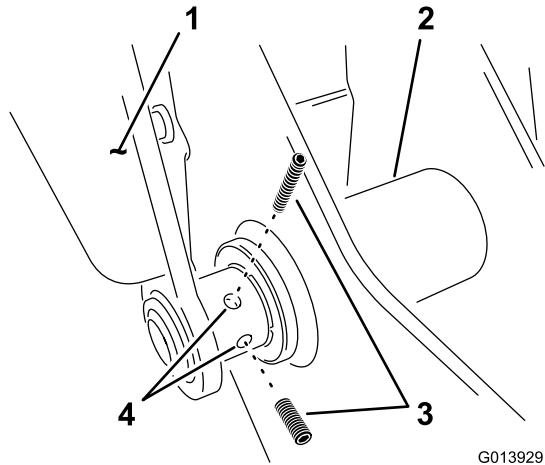

Figure 17
9. Install 2 set screws to the left arm at the lower hinge point (Figure 17).